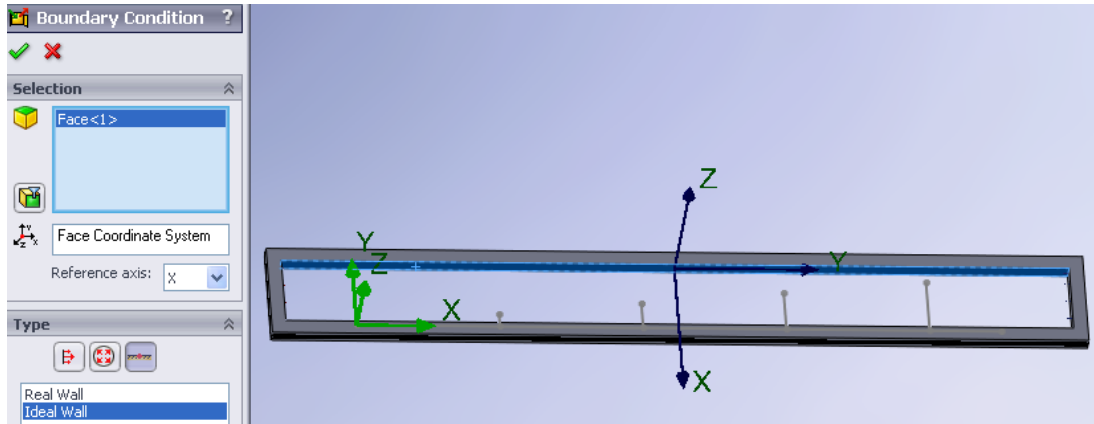

Figure 2.19a) Ideal wall boundary condition for upper wall
19. Enter the following boundary conditions: Ideal Wall for the upper wall and lower wall at the inflow region, see figures 2.19a) and 2.19b). These will be adiabatic and frictionless walls.